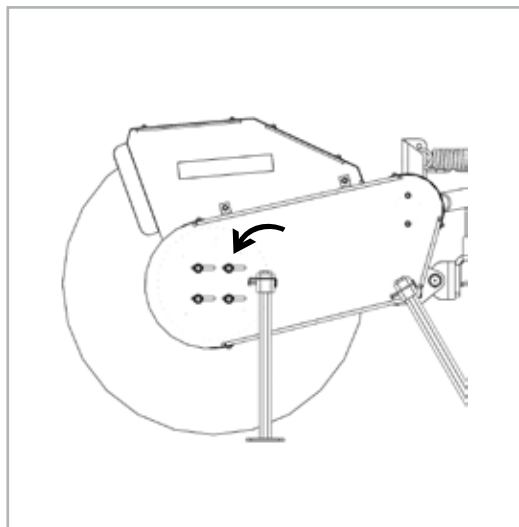

figure 8
2. Loosen but do not remove 4 bolts securing bearing assemblies on both sides of the brush head assembly (figures 8 and 9).